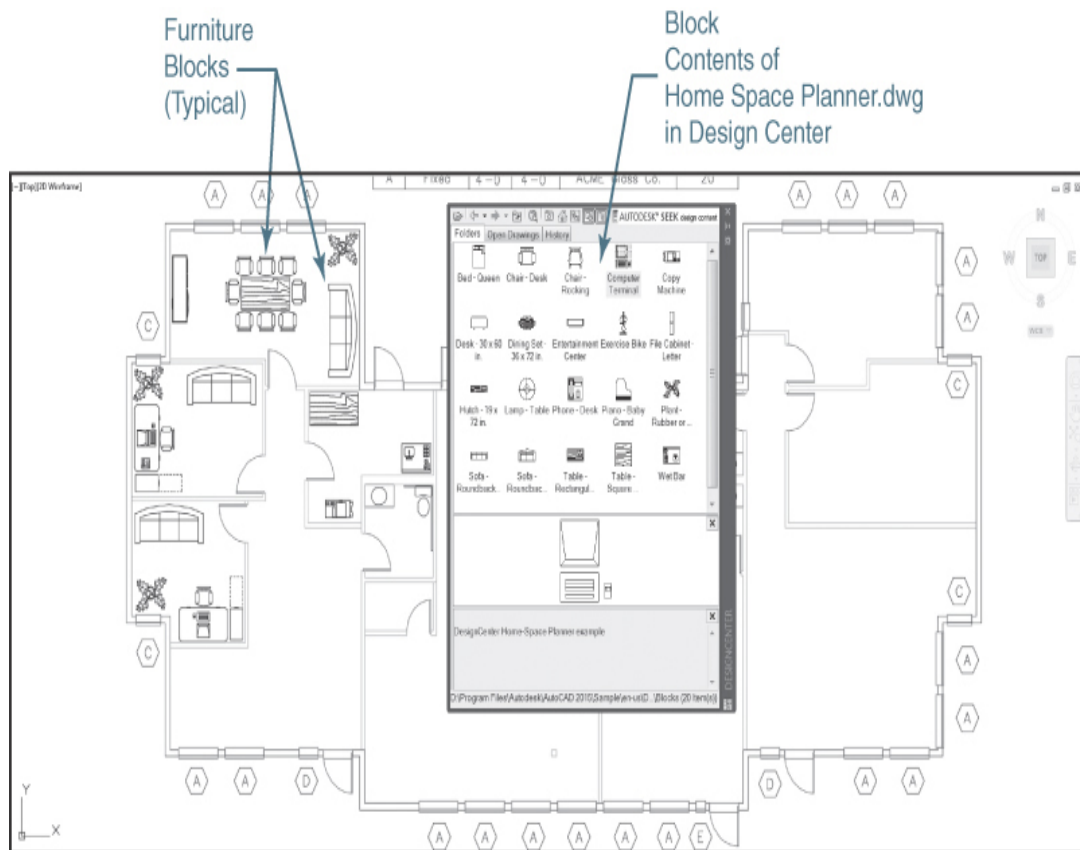

Figure 16-61
- 6 Insert blocks using the techniques explained above, and furnish the floor plan in a manner similar to Figure 16-61.